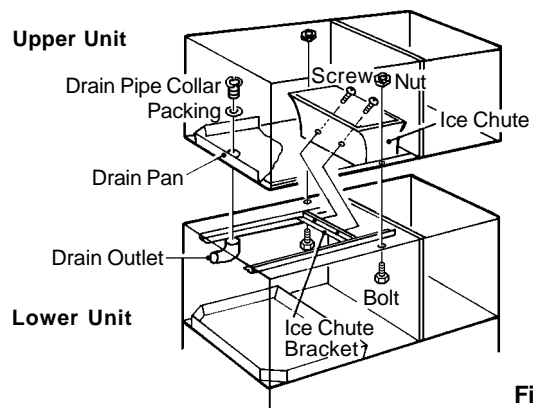

Fig. 9
11) Attach the upper or middle unit on the lower unit. See Fig. 9.
12) Secure the two units with the two bolts and the two nuts provided. See Fig. 9.
13) Align the lower unit drain hole and the upper unit drain pan hole. Insert the Packing (lower unit accessory) and fasten the Drain Pipe Collar (lower unit accessory). See Fig. 9.